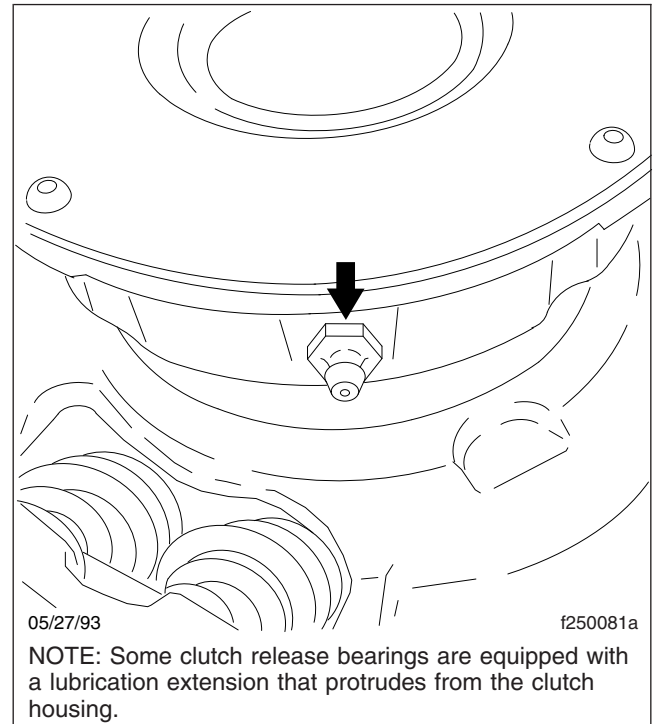

Fig. 1, Release Bearing Grease Fitting
3. Wipe the dirt away from the grease fitting. See Fig. 1. Use a low-pressure-type grease gun equipped with the recommended grease, and lubricate the bearing until excess grease purges from the rear of the release bearing (toward the transmission).